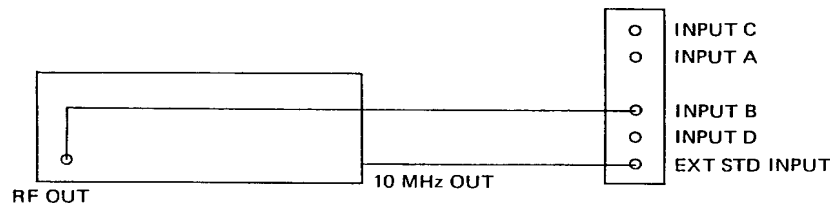

Figure 4-17, Input B Amplifier Setup Configuration
4.5.3.3 Connect the counter to the signal generator as shown in **Figure 4-17**.